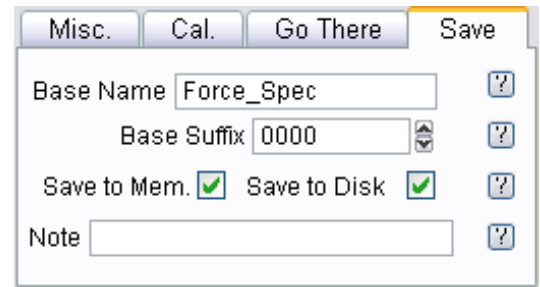

Figure 11.2.5.1: The Save subtab.
• The Save sub-tab is where force curves get saved (Figure 11.2.5.1). Use the same 17 character filename as with saving images; the filename can't start with a number or Igor lets you know its displeasure with your desire to attempt this.